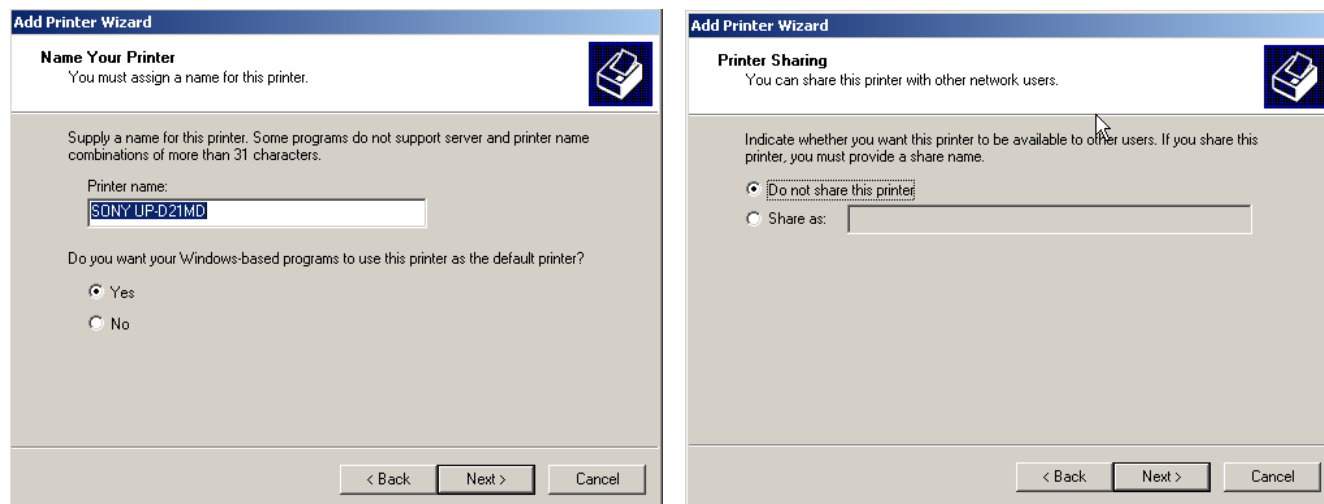

Figure 3-46 Assign name and select Printer Sharing - no
see: Figure 3-46.
- 16.) Select "Do not share this printer" and confirm the "Printer Sharing" window (Figure 3-46) by clicking NEXT.